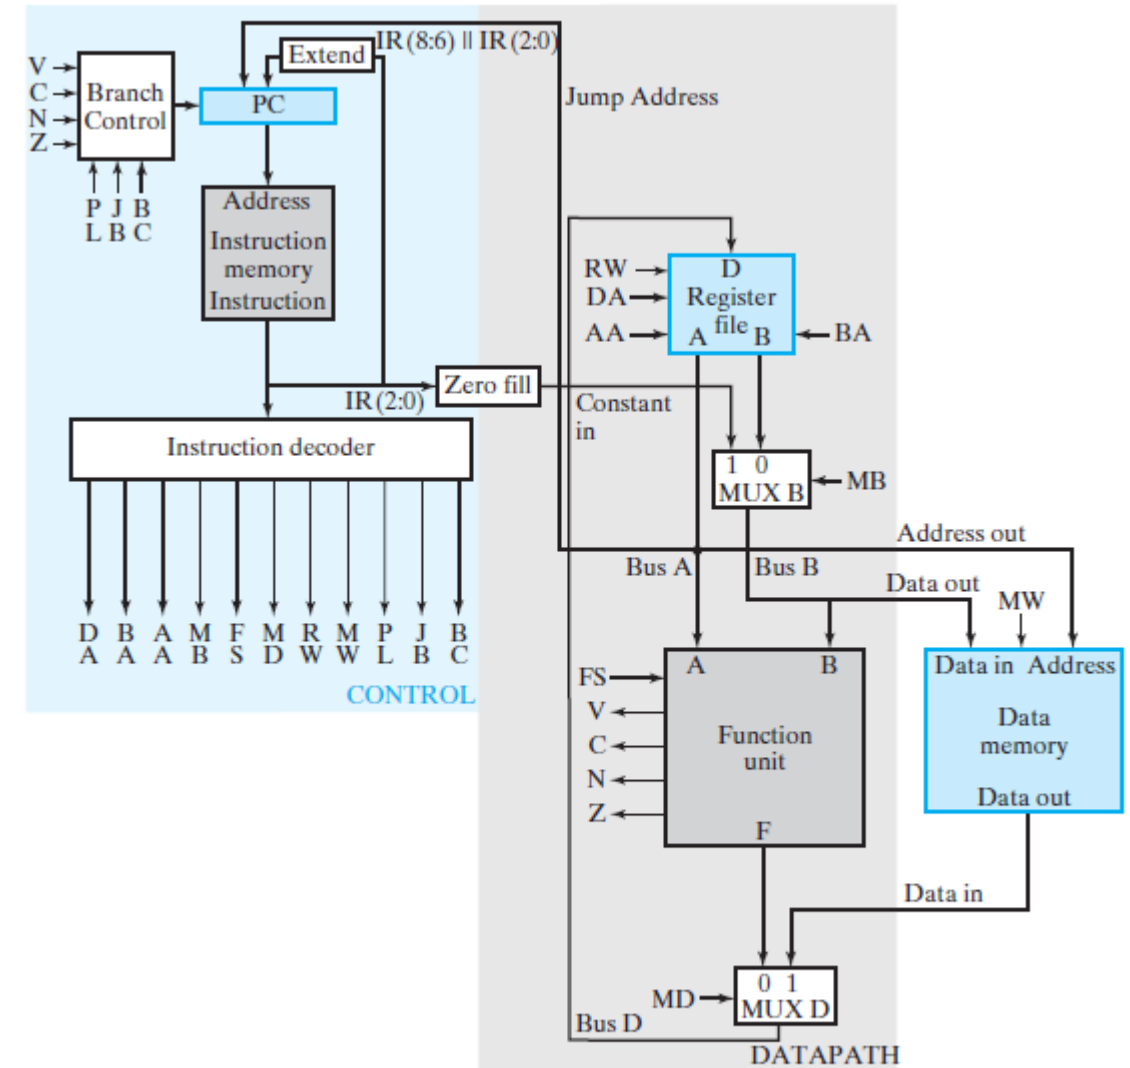

FIGURE 8-15
- The Control unit appears on the left in Figure 8-15.